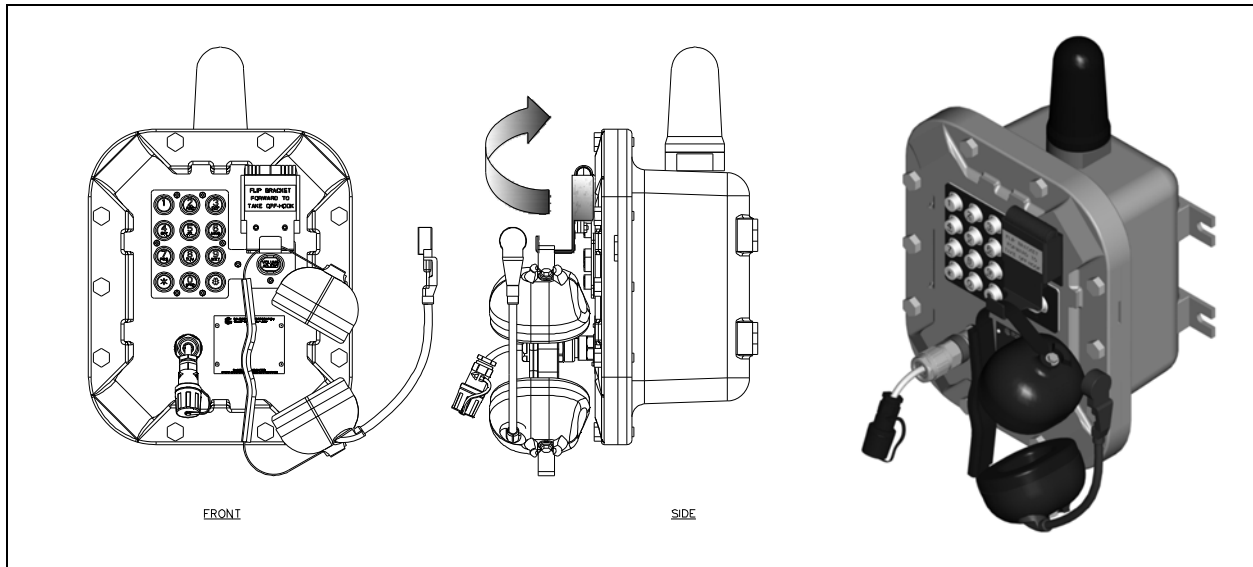

Figure 8. On-hook Configuration—Div. 1 WiFi Page Phone—Headset Version
1. plug it into the flexible plug on the front of the telephone by removing the sealing cap from the receptacle, aligning the connector pins, and screwing the two ends together (see Figure 8).